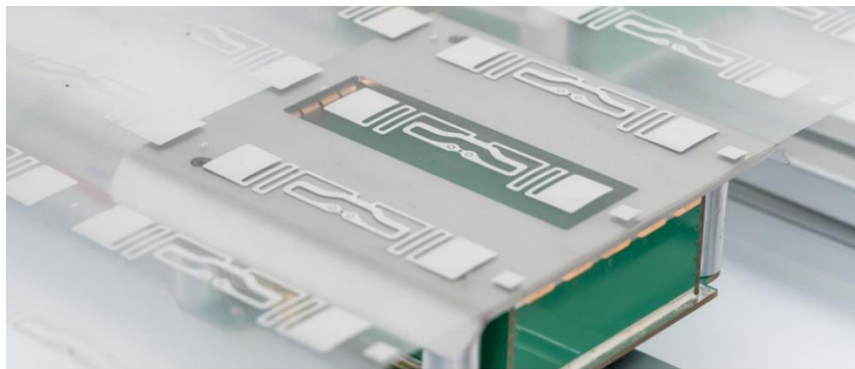

Figure 5. Snoop Pro coupling element mounted under the liner.
- The center line of the inlay coupling element should cross the Snoop Pro coupling element's center line (as in figure 5).